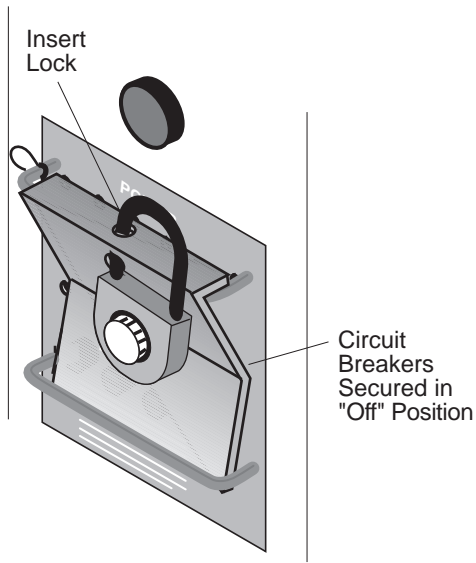

Figure 1-3: Power Lockout
**Remove and lockout power (see Figure 1-3) from the heat press before servicing. You can be severely shocked, electrocuted or cause a fire.**
Posted at various locations on your DS-60 Heat Press are important safety labels. PAY CAREFUL ATTENTION TO THESE LABELS AT ALL TIMES! Figure 1-3 shows the location of each of these labels.